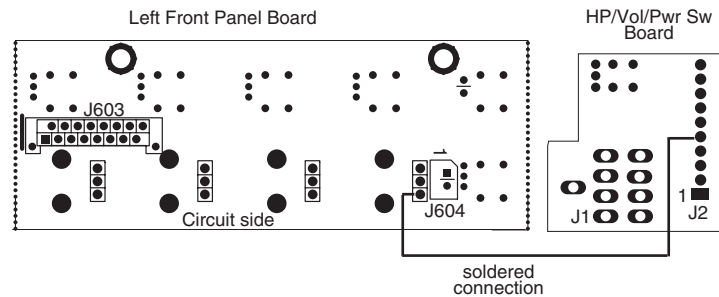

Figure 3-6 Left Front Panel and Headphone/Volume/Power Switch Board connection
5. Refer to Figure 3-6. This illustration shows the location of a soldered connection between the Left Front Panel and Headphone/Volume/Power Switch Boards. To remove the board, desolder this connection from the Left Front Panel Board.
5. Refer to Figure 3-6. Solder the wire connection from the Headphone/Volume/Power Switch Board to the location indicated on the Left Front Panel Board.
7. Refer to Figure 3-6. This illustration shows the location of a soldered connection between the Left Front Panel and Headphone/Volume/Power Switch Boards. To remove the board, desolder this connection from the Headphone/Volume/Power Switch Board.
5. Refer to Figure 3-6. Solder the wire connection from the Left Front Panel Board to Pin 5 of J2 on the Headphone/Volume/Power Switch Board.